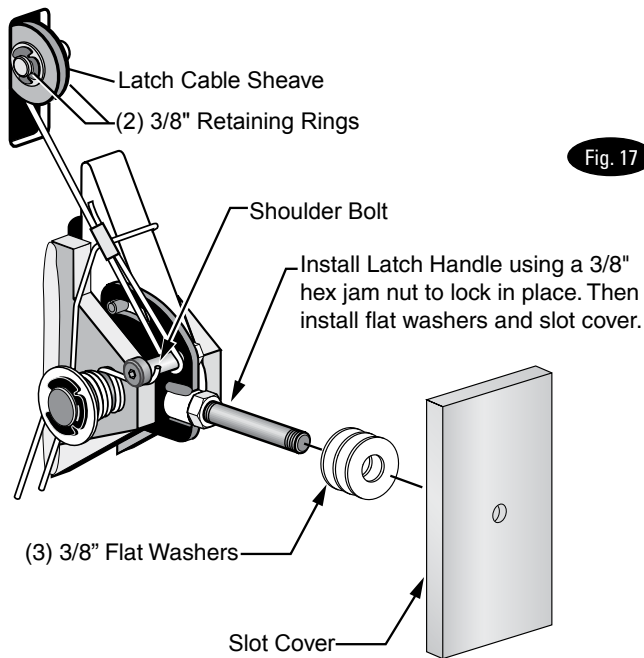

Fig. 17
- A) Install latch cable sheave and retaining rings in upper slot of power unit column as shown, Fig. 17.
- B) Slip loop end of cable over end of shoulder screw on right side latch control plate, Fig. 17.
- C) Feed the other end of the cable through the latch cable sheave slot making sure that the cable is running under the bottom side of the latch cable sheave and inside the right column, Fig. 17.
- J) At this point you **MUST** install the latch handle, jam nut, and right column latch cover Fig. 17 & Fig. 20. Install latch handle ball, Fig. 20.